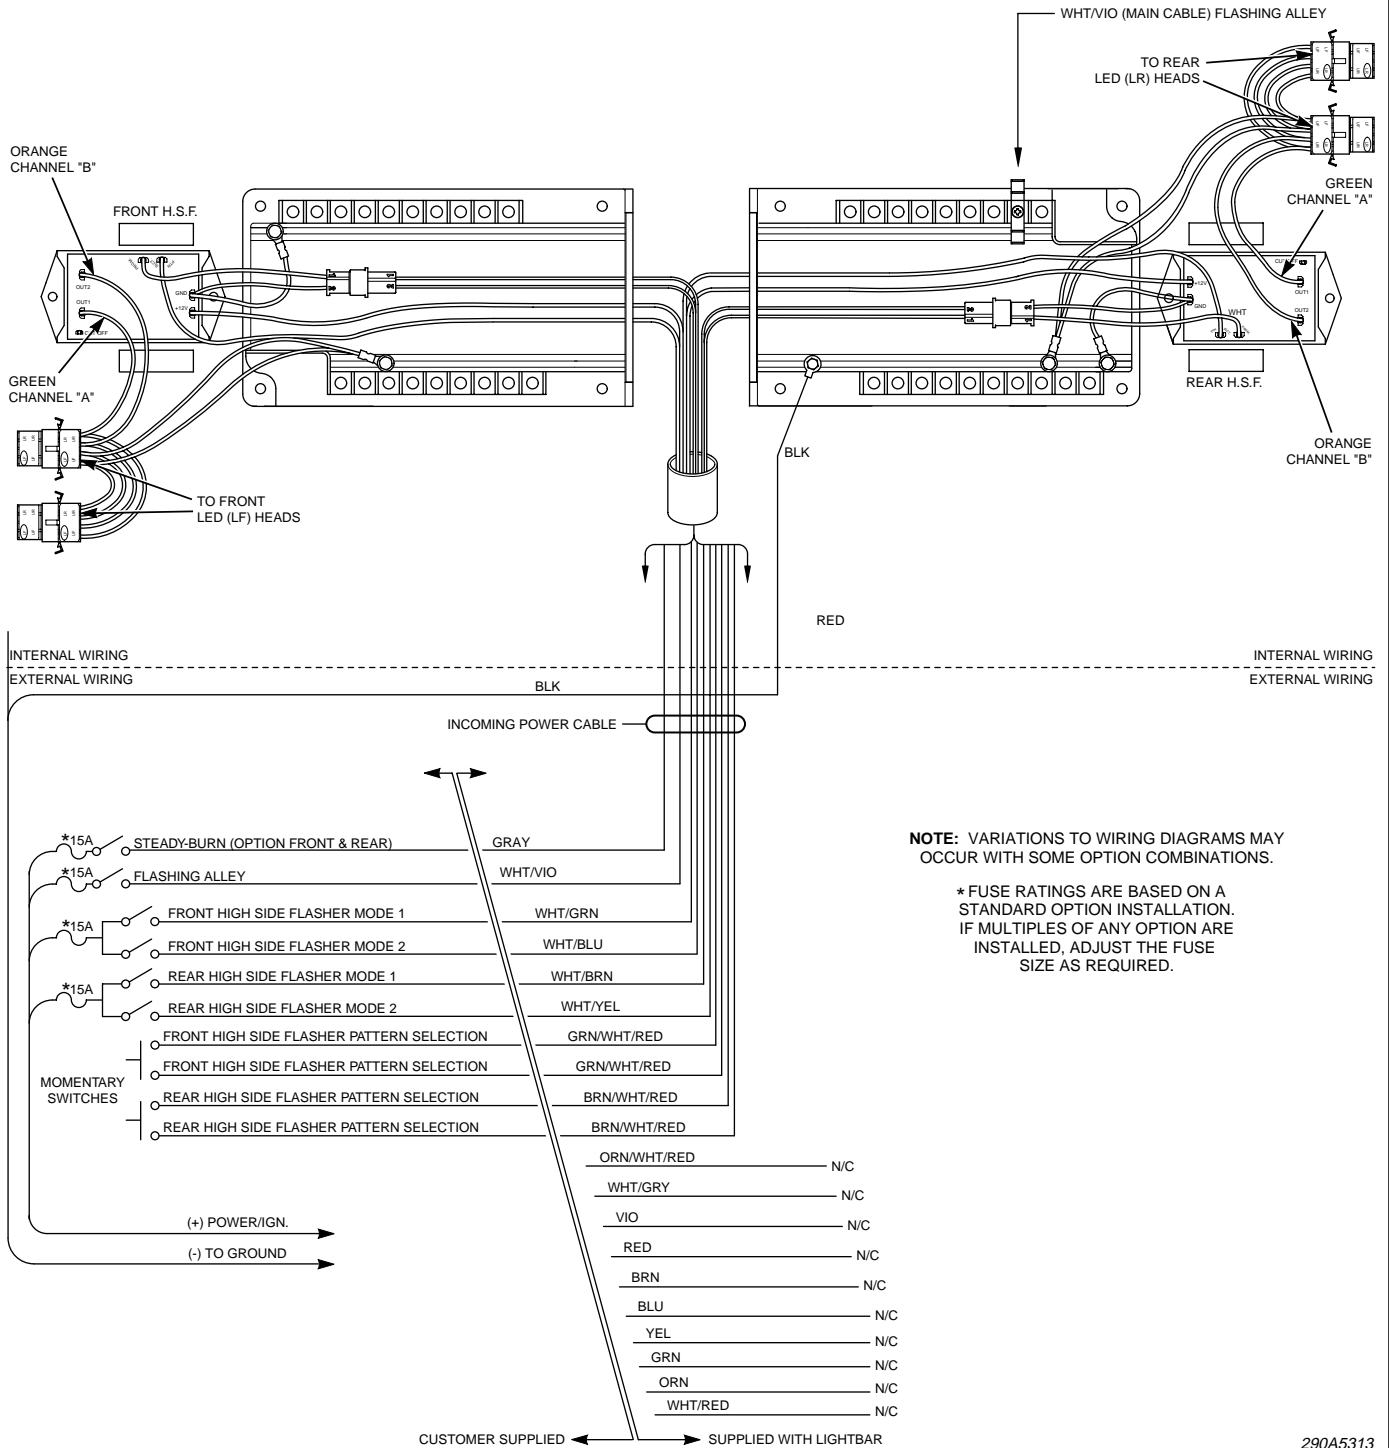

Figure 1.
- B. For proper light operation, the control cable must be properly terminated inside the user-supplied control head. Using figure 1 and table 1 as a guide, make the appropriate electrical connections. Ensure that the lines are adequately fused as shown, and that switch capacity is adequate for the current requirement.